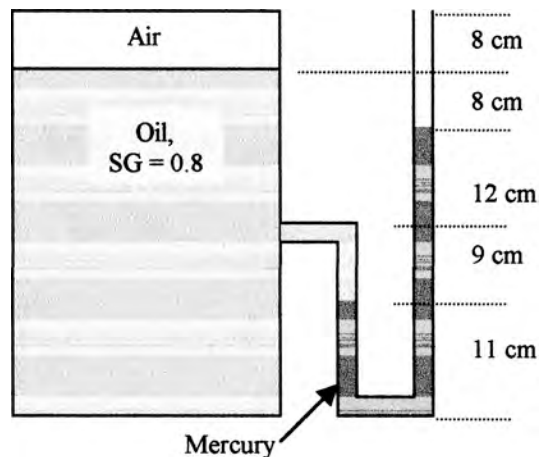

Fig. P2.39
**2.39** In Fig. P2.39 the right leg of the manometer is open to the atmosphere. Find the gage pressure, in Pa, in the air gap in the tank. Neglect surface tension.